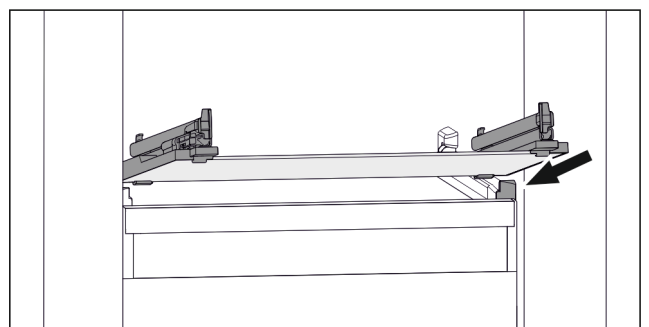

Fig. 107 Example illustration of glass shelf
- ▶ Position glass shelf at an angle behind the stoppers. (see Fig. 107)